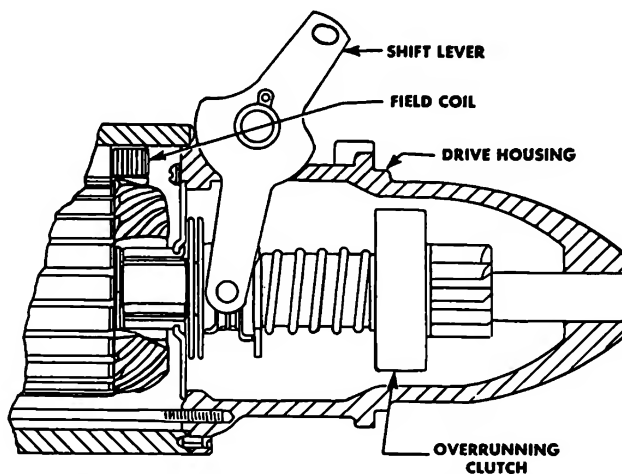

Fig. 11-5. Overrunning clutch drive assembly
2. The overrunning clutch (Fig. 11-5) consists of a shell and sleeve assembly which is splined internally to match splines on the armature shaft. Thus, both the shell and sleeve assembly and armature shaft must turn together. A pinion and collar assembly fits loosely into shell, and the collar is in contact with four hardened steel rollers which are assembled into notches cut in the inner face of the shell. These notches taper inward slightly so that there is less room in the end away from the rollers than in the end where the rollers are. The rollers are spring loaded by small plungers.
3. When the shift lever (Fig. 11-5) is operated, the clutch assembly is moved endwise along the armature shaft so that the pinion meshes with the flywheel ring gear. If the teeth should butt instead of mesh, the clutch spring compresses so that the pinion is spring loaded against the ring-gear teeth. Then, when armature begins to rotate, meshing takes place at once. Completion of the shift lever movement closes the cranking motor switch so that the armature begins to rotate. This rotates the shell and sleeve assembly causing the rollers to jam tightly in the smaller sections of the shell notches. The rollers jam between the pinion collar and the shell so that the pinion is found to rotate with the armature and crank the engine.